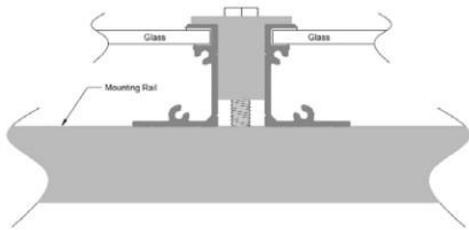

Figure 1: Typical pressure clamp
2) The most common mounting is achieved by mounting the module using the four symmetry points close to the inner side on module frame. Solar modules can be mounted using the four mounting holes located on the solar modules frame or may also be mounted using pressure clips that compress the frame from the top to the mounting rail (Figure 1). The mounting rails must be run perpendicular to the length of the module.